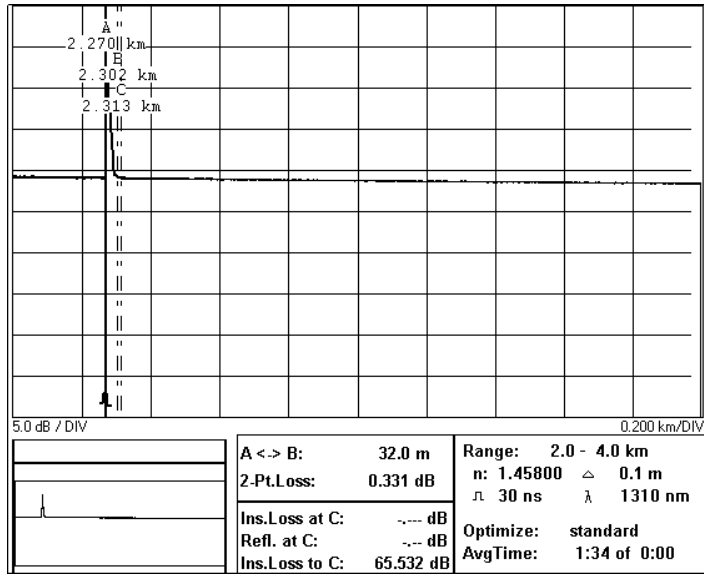

Figure D-7
- 14** Position marker A as close as possible to the left of the first reflection on the trace. See Figure D-7.
- 15** Position marker B as close as possible to the right of the first reflection on the trace. See Figure D-7.
16 Position marker C close to marker B. See Figure D-7.